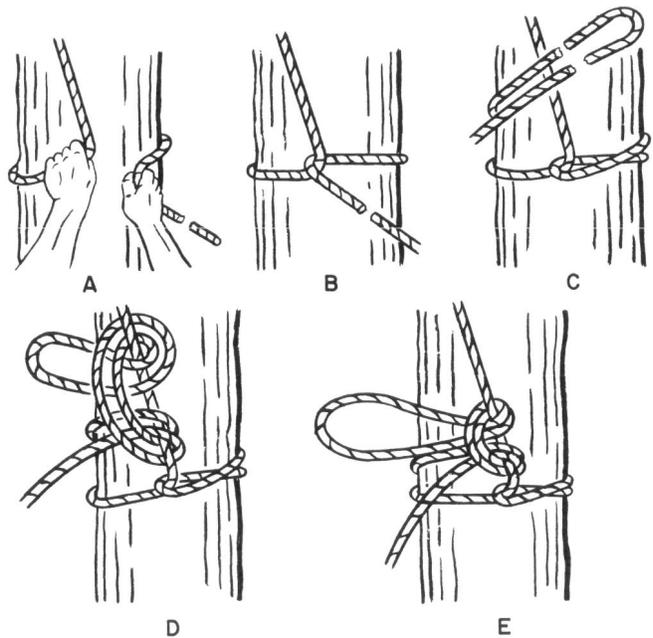
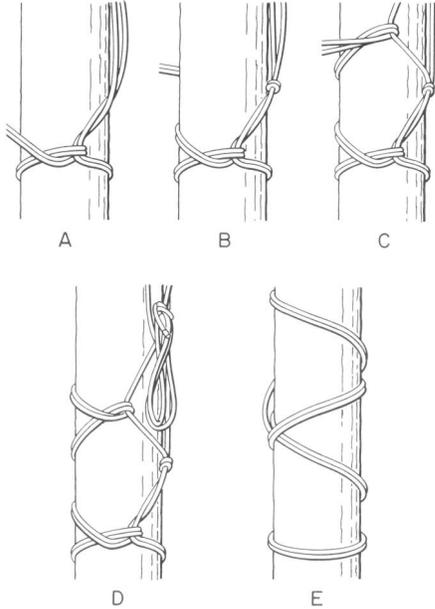
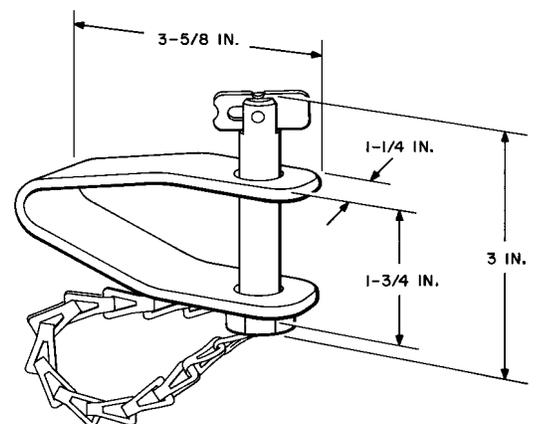

Fig. 12—Line Method of Tying Guy Ropes to Pole or Ladder Side Rail
Fig. 14—Alternate Method of Tying Guy Ropes To Pole
**Fig. 17A—Handline With Bight and Loop**
- (a) Guying to a pole is done as shown in Fig. 12, 13, or 14.
- (b) Guying to one ladder is done as shown in Fig. 12, 15, and 16.
- (c) Guying to two ladders ("A" frame) is done as shown in Fig. 12, 15, and 17. Fig. 17A, 17B, 17C, and 17D show details of two ladder ("A" frame) assembly which is shown in Fig. 17.
(d) The following steps required in tying the guy ropes to a pole or ladder are illustrated in Fig. 12. However, there are two methods of tying ropes to a pole or ladder. See Fig. 14 and 15 for the alternate methods.
- (1) Face the pole or ladder side rail from the side on which the platform is hanging or will be hung. Hold the standing end of the left-hand guy rope in the left hand and pass the loose end of the guy rope around the pole or ladder rail as shown in A of Fig. 12. Place the hitch so it will not interfere with pole steps.
- (2) Pass the loose end of the rope over the standing end, as indicated in B of Fig. 12 and pull to the desired tension. The hitch
- (3) Pass the free end up and over the first turn and around the back of the pole or ladder rail as shown in C of Fig. 12.
- (4) Secure the rope with two half hitches on the standing end as shown in D of Fig. 12.
- (5) Complete the tie on the left-hand guy rope as shown in E of Fig. 12.
- (e) Fig. 14 illustrates an alternate method of tying the platform guy ropes to a pole as follows:
- (1) Face the side of the pole on which the platform is hung. Hold both ropes together and pass around the pole as shown in A.